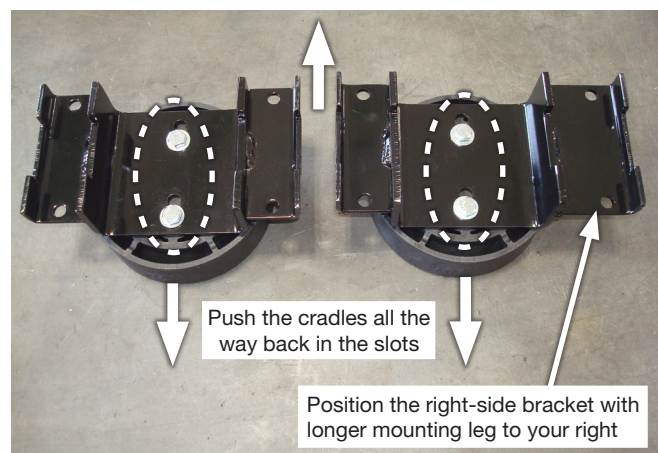

Fig. 15
- This will be your left (driver's side) lower bracket assembly for the lower bracket with equal legs. Push the cradle all the way back into the slot (Fig. 15) and torque the lower bracket hardware to 15 lb.-ft. (20Nm).
- The lower bracket with the unequal legs will be your right (passenger's side) lower bracket. It will be important that the cradle be pushed back into the slot in the correct position to properly align it when it is installed on the axle. With the long leg shown in Figure 15 to your right, torque the hardware with the cradle all the way back in the slot of the lower bracket.